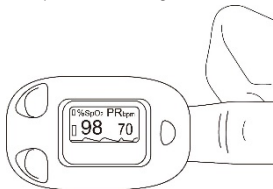

Figure 5 Put finger in position
1. The finger should be placed properly (see the attached illustration of this manual, Figure 5), or else it may cause inaccurate measurement.
2) Open the clip as shown in Figure 5.